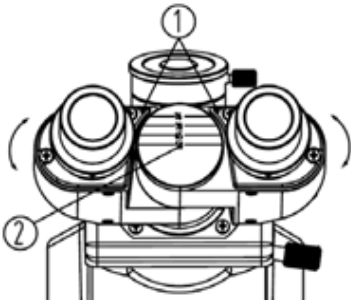

Fig. 12 Interpupillary Distance Adjustment
Look into the eyepieces and move the eyepiece tubes ① (Fig.12) together or apart until you see only one complete circle of light. The interpupillary distance adjustable range is 50-76mm.